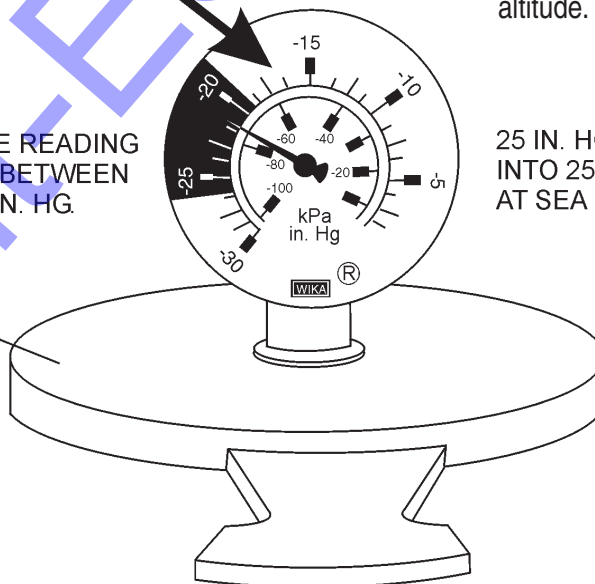

Figure 18. Pump Vacuum Tester
3. As shown in Figure 18, place a water hose inside the discharge opening of the pump, and turn on the water. This flow of water into the discharge opening will **prevent** the pump from running dry.
4. Place the **Pump Vacuum Tester** (P/N 7000030) over the pump suction (inlet) opening (Figure 18) with the vacuum gauge facing upwards. It may be necessary to apply a small amount of water around the rubber seal of the vacuum tester to make a good suction fit.